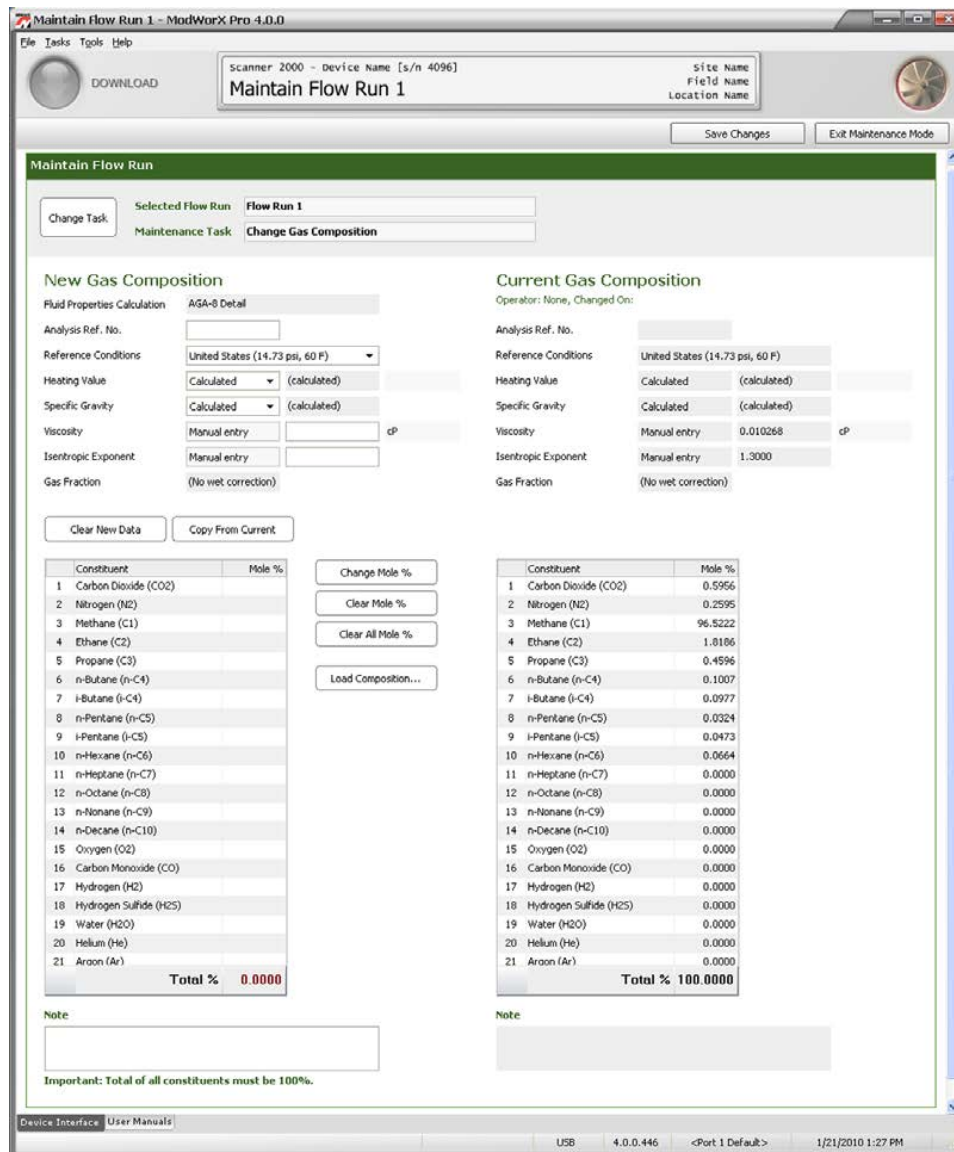

Figure 9.7
- b. Click **OK** to save the settings and return to the Maintain Flow Run screen (Figure 9.7, page 124).